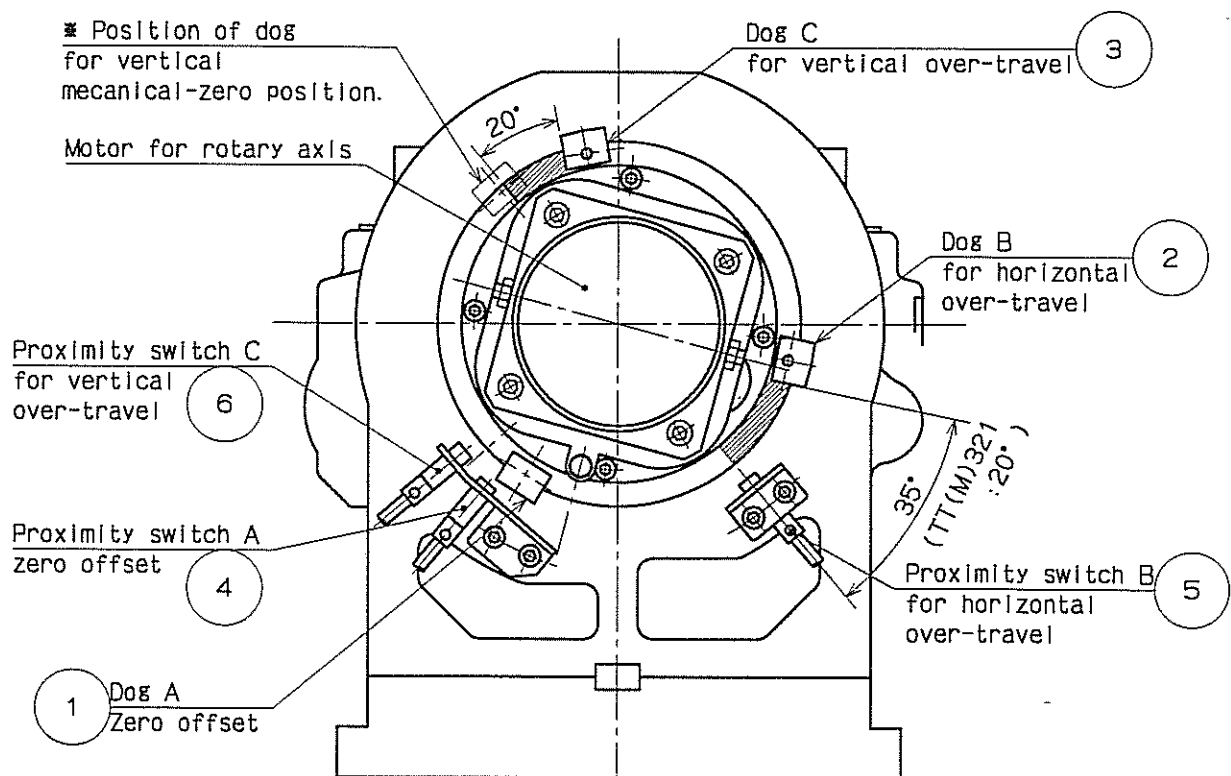

Fig 11
6-3-2 Tilting axis ZRN device (Fig.11)
(Fig.11)
- 2) The dog B ② of Fig.11 located on the stroke limit on the horizontal table face position is detected with the proximity switch B ⑤.
- 3) The dog C ③ located on the stroke limit on the vertical table face position is detected with the proximity switch C ⑥.